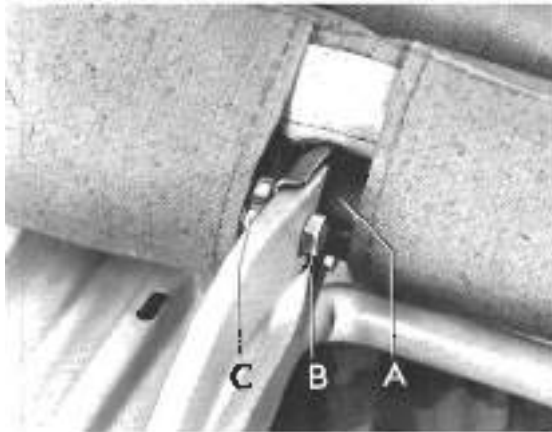

Fig. 7-44. Connecting tube mounting on hinge. The connecting tube with bracket is at A, the bolt at B and the self-locking nut at C.
2. Push the bolts out of the holes in the hinge arms and connecting tube brackets (Fig. 7-44).